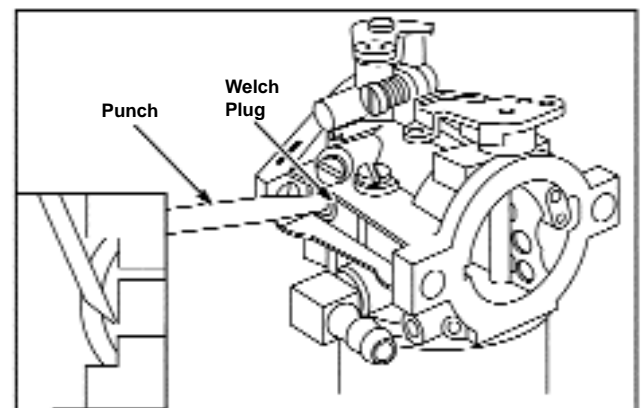

Figure 46 - Removing Welch Plug
5. Using a modified 5/16th pin punch or awl, remove welch plug from carburetor body. See Figure 46.